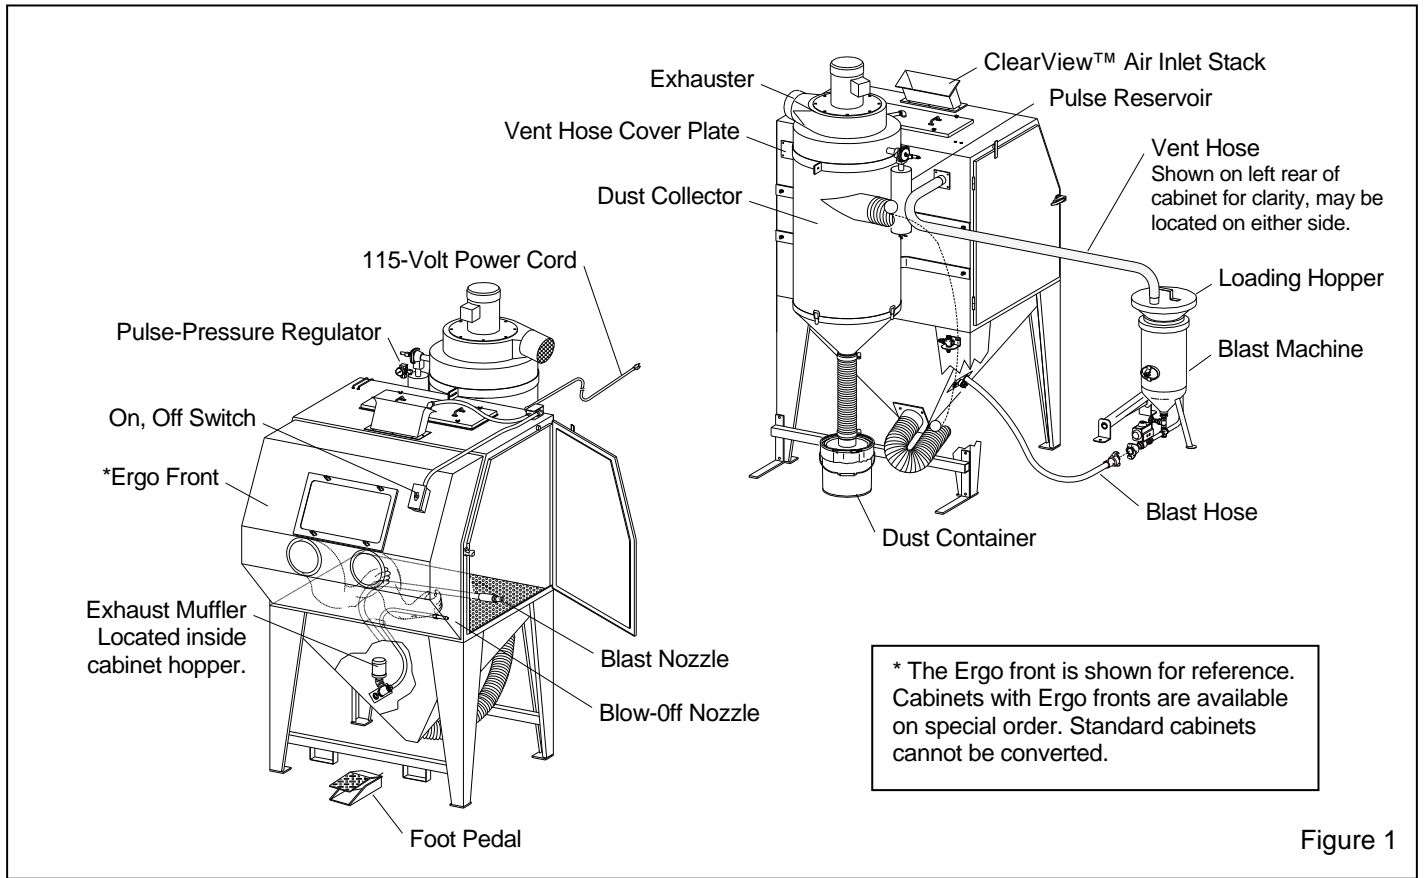
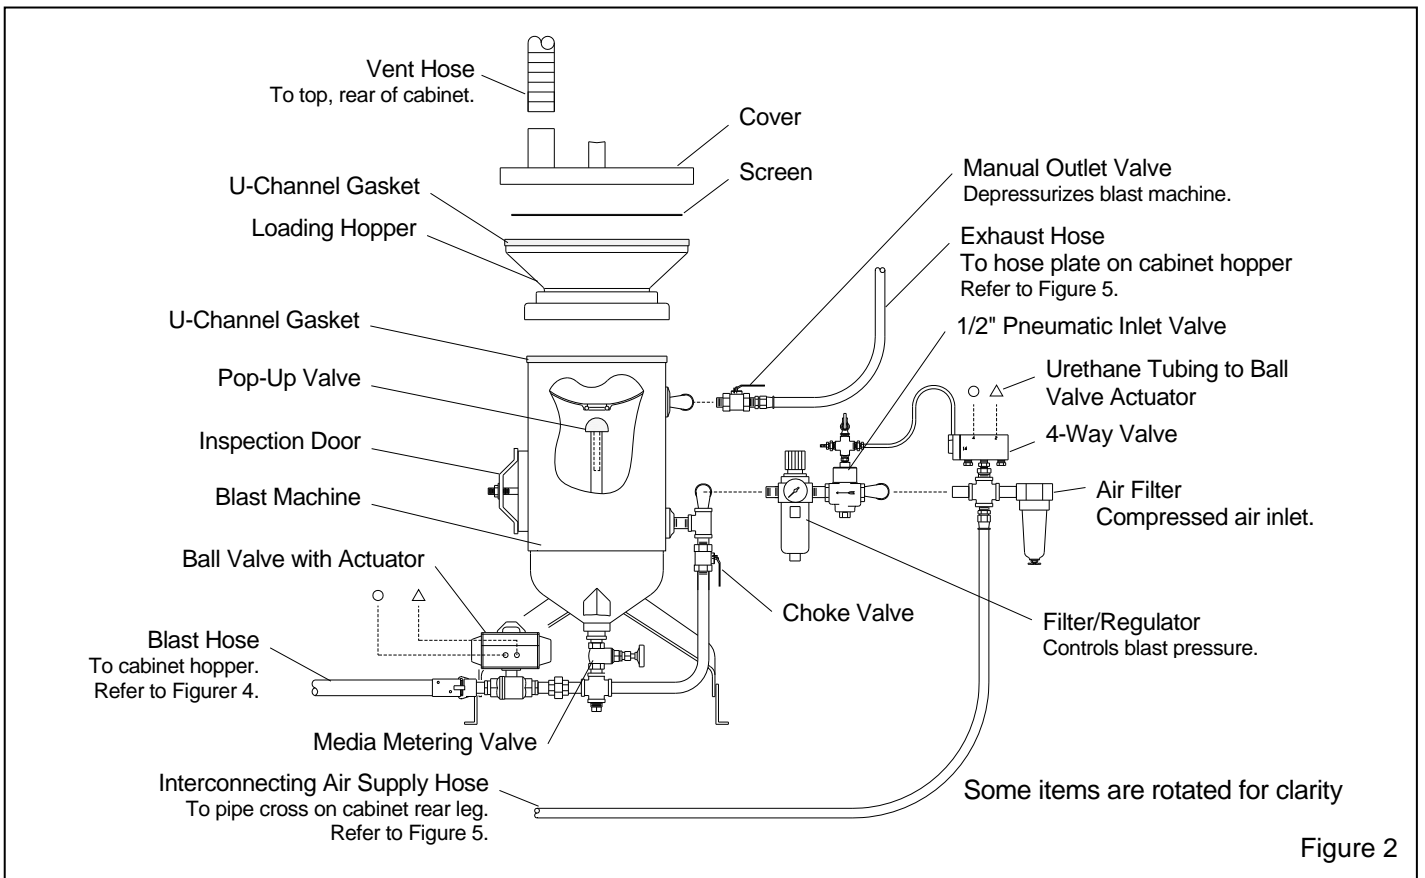
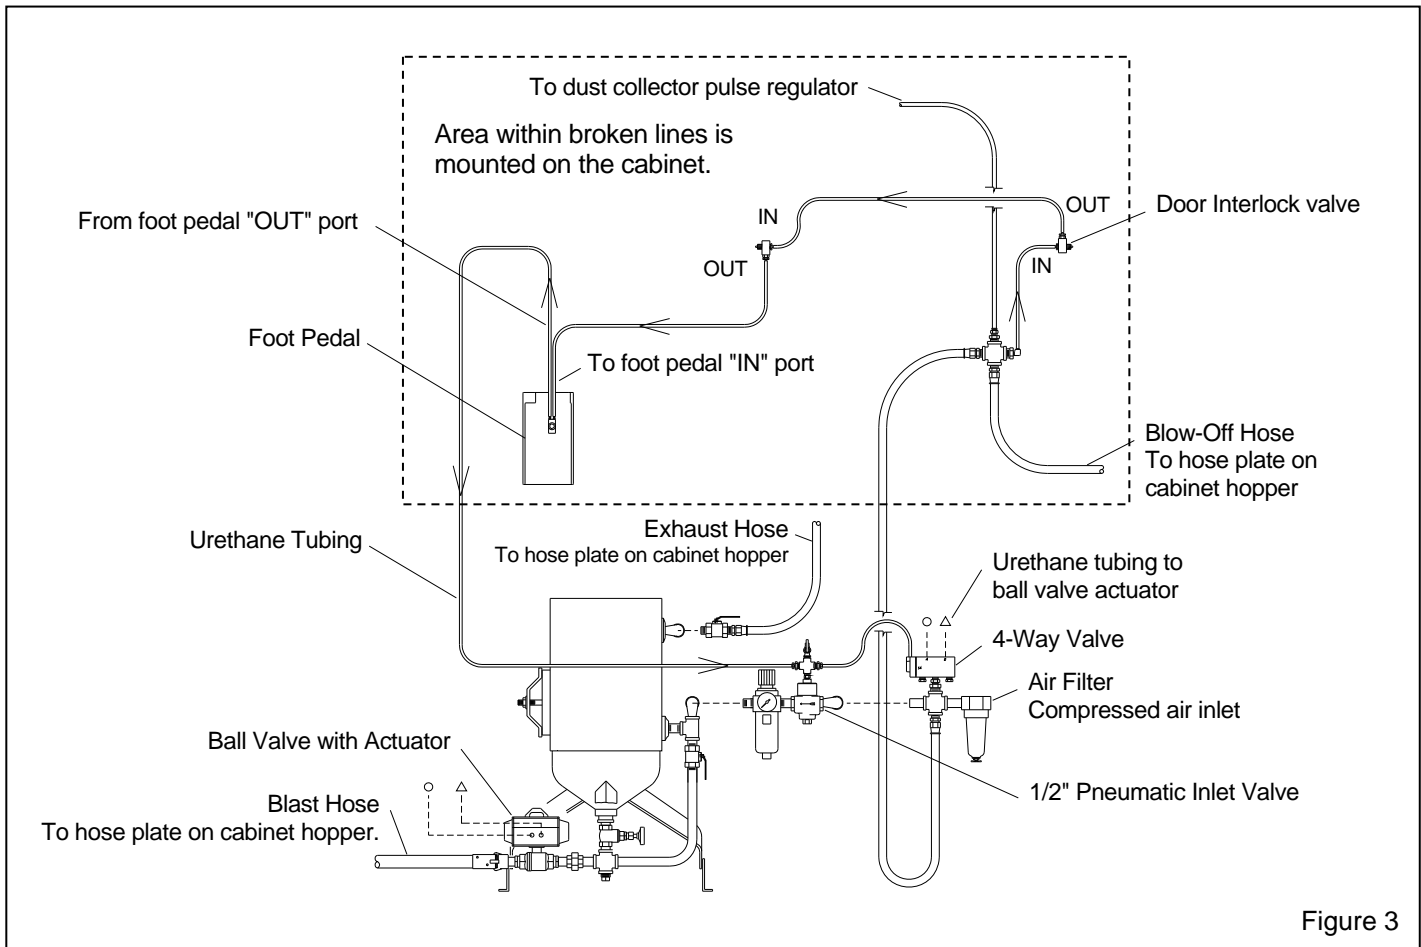

Figure 1
Figure 2
Figure 3
Refer to Figure 1 for the general arrangement and callouts of the major parts. Refer to Figure 2 for identification of blast machine parts, and Figure 3 for the controls circuit and blast machine hose connections,
1.6.1 Components of the blast machine are shown in Figure 2 and the control circuit is shown in Figure 3.
2.7 Urethane Control Tubing: Refer to Figure 6 and connect the 1/8" urethane tubing from the foot pedal to the compatible fitting on the inlet valve. Refer to the control schematic in Figure 3 for the full pneumatic control circuit.
2.8 Vent Hose: Connect the 2" flex (vent) hose between the top of the loading hopper and adaptor pipe located on the rear cabinet wall, as shown in Figure 6. NOTE: there is a cover plate on the opposite side of the cabinet wall as shown in Figure 1. If it is more convenient to attach the vent hose to the other side, exchange the cover plate with the adaptor pipe.